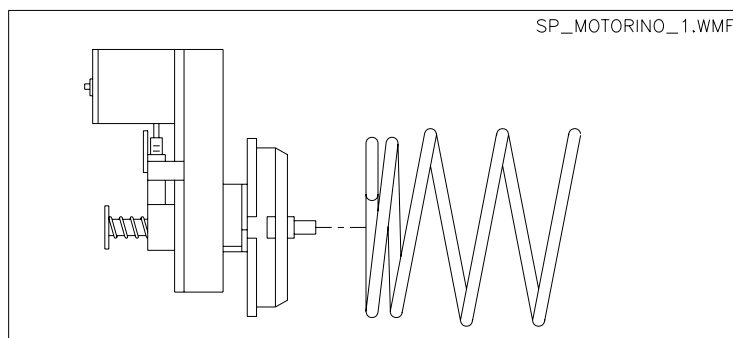

FIG. 11
9.2 SUSTITUCION ESPIRAL Y GRUPO MOTOR EXPULSOR (FIG. 11)